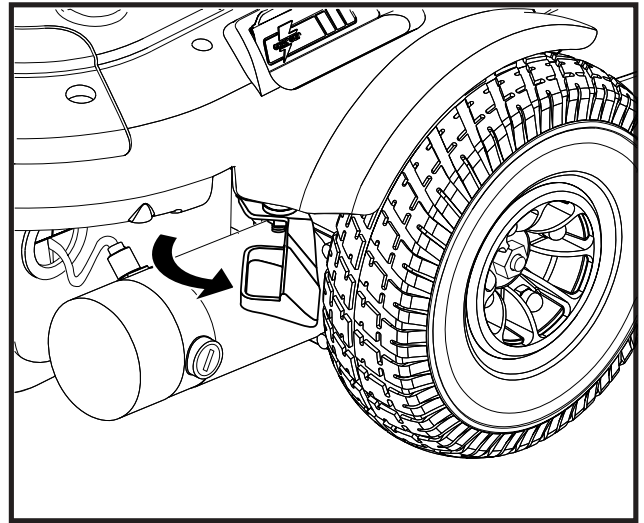

Figure 9. Freewheel Mode (Drive Disengaged)
3. Pull the two levers outward to disengage the drive motors (freewheel mode). See figure 9.